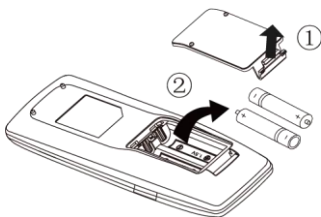

Fig.5
- (1) Lift the cover along the direction of arrow (as shown in Fig 5①).
- (2) Take out the original batteries (as shown in Fig 5②).